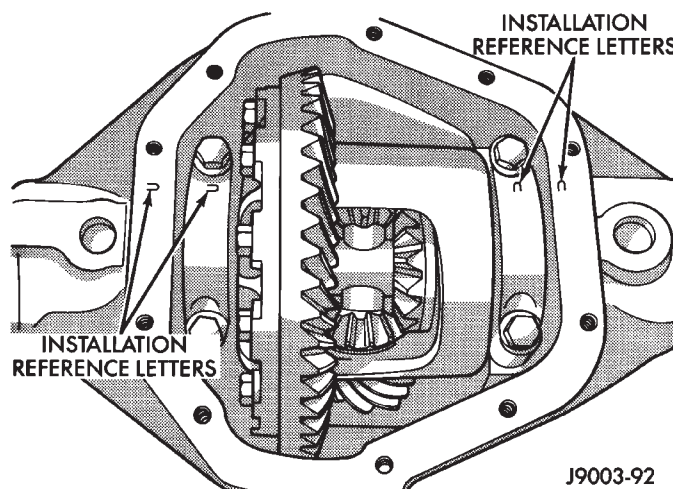

Fig. 27 Bearing Cap Identification
- (1) Raise and support vehicle.
- (2) Remove the lubricant fill hole plug from the differential housing cover.
- (3) Remove the differential housing cover and allow fluid to drain.
- (4) Remove axle shafts.
- (5) Note the installation reference letters stamped on the bearing caps and housing machined sealing surface (Fig. 27).